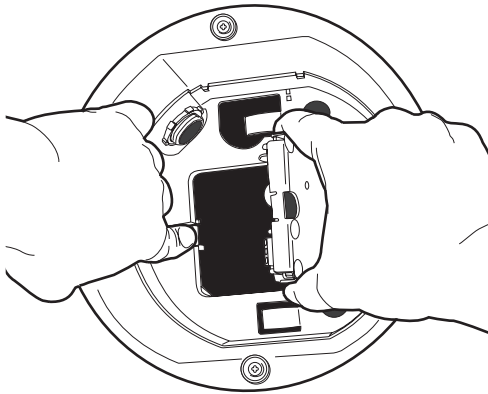

Figure 3. Spectra IV Back Box Interconnect Door
4. Open the hinged door to the box. Push the tab lock towards the back box wall of the unit and open the door (refer to Figure 3).